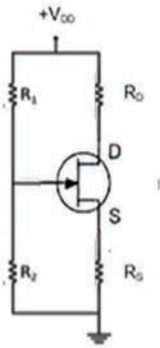

Figure 7.37 Ch 7: No. 14, self-test
14. (a) Determine the values of V_D , V_S , V_{GS} , and V_{DS} for the circuit shown in Figure 7.37, if R_1 is $4\text{ M}\Omega$, R_2 is $2\text{ M}\Omega$, R_D is $1\text{ k}\Omega$, R_S is $2.5\text{ k}\Omega$, V_{DD} is 15 V , and I_D is 4 mA . (b) Plot the DC load line and determine the Q-point.